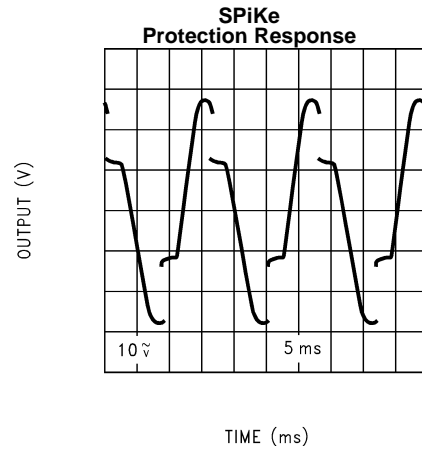

Figure 5.
- (1) All voltages are measured with respect to the GND pin (pin 7), unless otherwise specified.
- (2) Absolute Maximum Ratings indicate limits beyond which damage to the device may occur. Operating Ratings indicate conditions for which the device is functional. Electrical Characteristics state DC and AC electrical specifications under particular test conditions and specific performance limits. This assumes that the device is within the Operating Ratings. The typical value is a good indication of device performance.
- (3) Operation is specified up to 84V, however, distortion may be introduced from SPIKE Protection Circuitry if proper thermal considerations are not taken into account. Refer to THERMAL CONSIDERATIONS for more information. (See Figure 5)